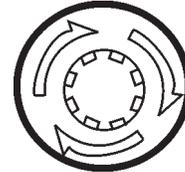

Figure 57. Emergency Stop Button
1. To stop the engine in the event of an emergency, **PUSH** the emergency stop button (Figure 57) inward. This button is located on the engine operating panel, reference Figure 5.